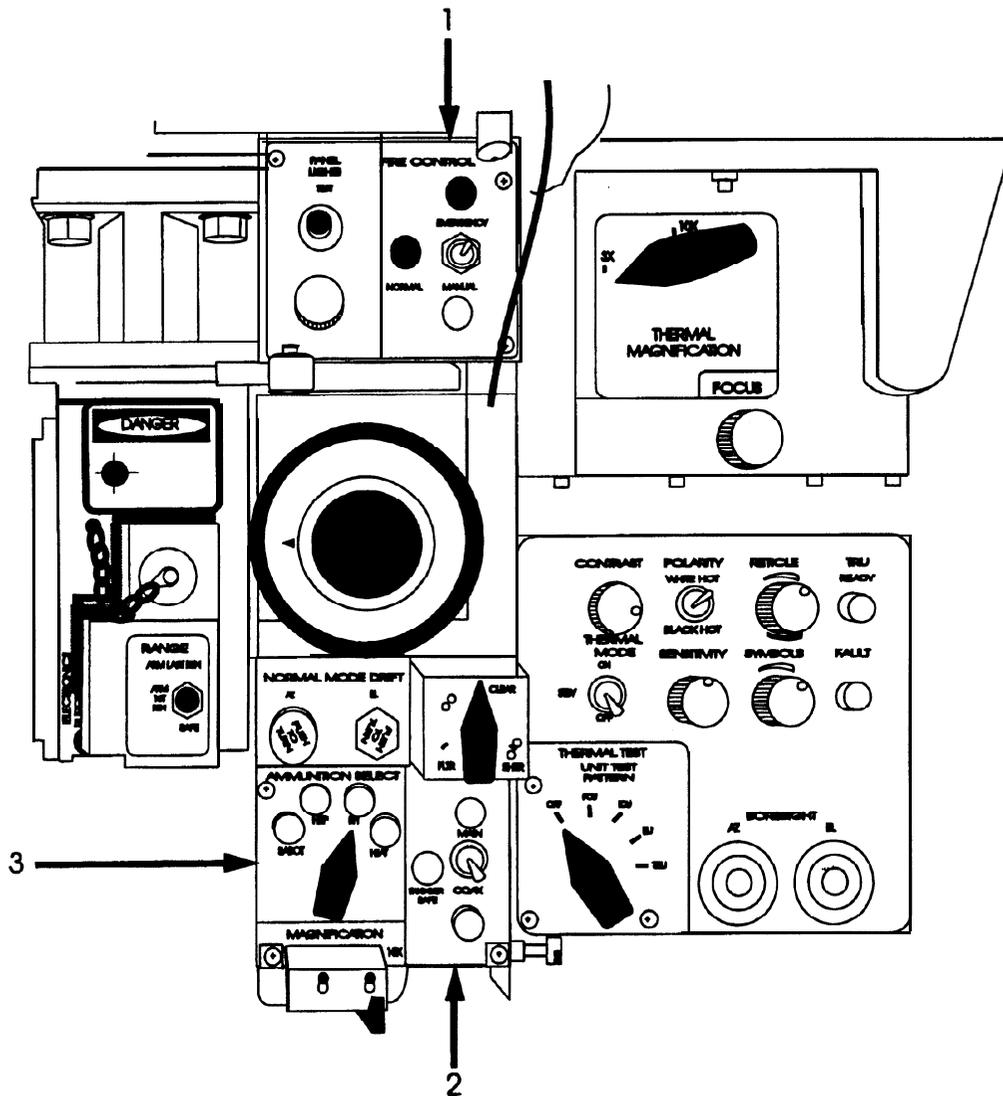

Figure 2-15. GPS Control Panel (Actual Tank Controls and Indicators)
2.3.2.1 GPS Control Panel. The GPS Control Panel, shown in Figure 2-15, is the actual tank panel connected to the Gunner's Crew Station cables. The simulator does not sense or illuminate all switches and lights. Only those specified are active and function normally.